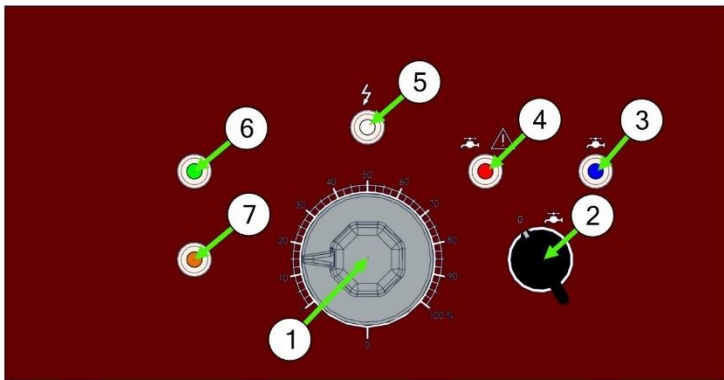

Fig. 1
As soon as the overflow plug is placed, you can connect the appliance to its mains. The white indicator (Fig. 1 – Mark. 1) lights on, indicating the appliance is power supplied, then:
- Switch the water solenoid switch (Fig. 1 – Mark. 2) on “” position, bath starts to be filled with water and the blue indicator (Fig. 1 – Mark. 3) lights on. As soon as water starts to flow through the overflow plug’s hole, it means that the water level inside the bath is correct. Switch off the water solenoid.
- Preheat the griddle: Turn the energy regulator (Fig. 1 - Mark. 1) into clockwise direction. As soon as the energy regulator’s cursor is between 1 and 100%, the green indicator (Fig. 1 – Mark. 6) lights on to indicate that the appliance is running. Bring the energy regulator’s cursor to 100% for a few minutes (Ten minutes maximum). The orange indicator (Fig. 1 – Mark. 7) lights on to indicates that the appliance’s heating elements are heating.
During the cooking process, especially during a long and intense use of the appliance, it is possible that the water of the bath evaporates. In that case and to avoid inlaid burnt grease in the bath, a safety thermostat shut the heating off and a red indicator (Fig. 1 – Mark. 4) lights on on the control panel. In such a case, refill the bath with water as described above to make the bath cool. As soon as the bath temperature correct, heating will resume.